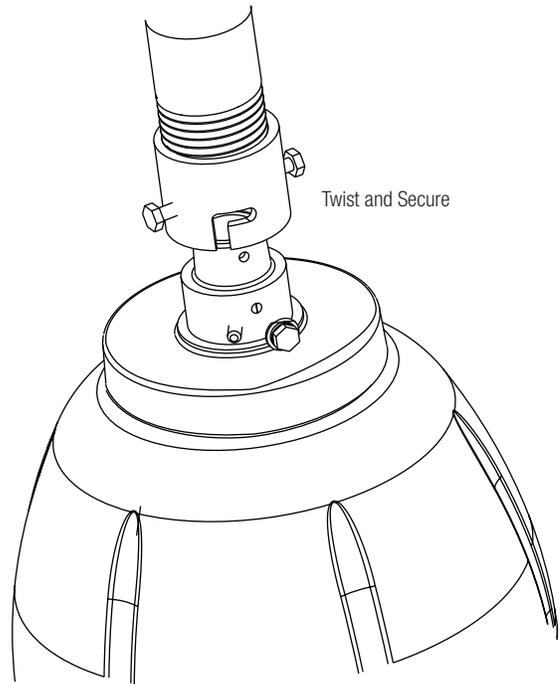

Figure 3
2. Undo the safety cable and twist the housing onto the housing coupling. Secure all (3) setscrews provided on the housing coupling (Figure 3, next column).